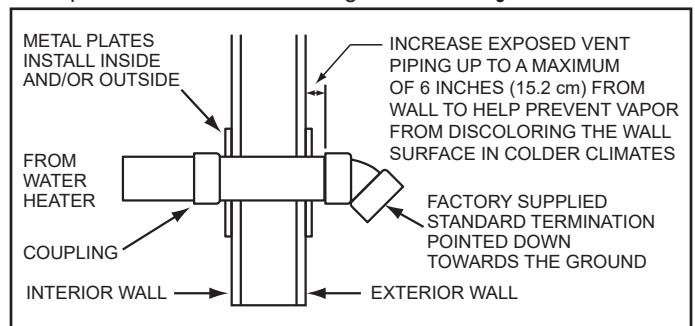

Figure 39. Sidewall Termination Installation
12. Working from outside, slide the pipe and termination(s) assembled in the above steps through the wall. Ensure that the termination(s) is pointed down towards the ground. See *Figure 39*.
16. Install a coupling to the end of the pipe(s) inside the building. Before the silicone caulking has time to completely set, go outside the building and ensure that the termination(s) is still pointing down towards the ground. See *Figure 39*.